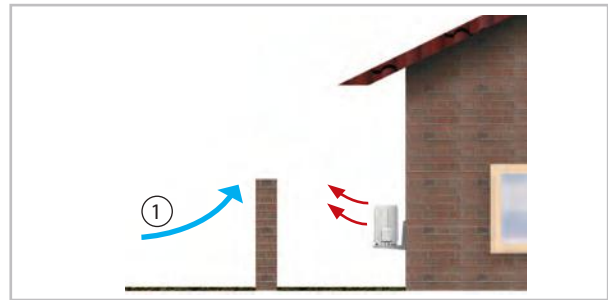
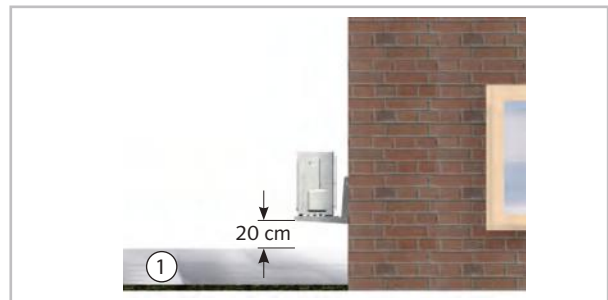

Fig. 29: Protection from wind
Fig. 30: Protection from snow
- If the outdoor unit is erected in an area of strong winds, then the device must be protected against them (Fig. 29). The snow line is to be observed during installation (Fig. 30).
- During installation, add about 20 cm to the expected snow depth to guarantee unimpeded intake and exhaust of outdoor air year round (Fig. 30).